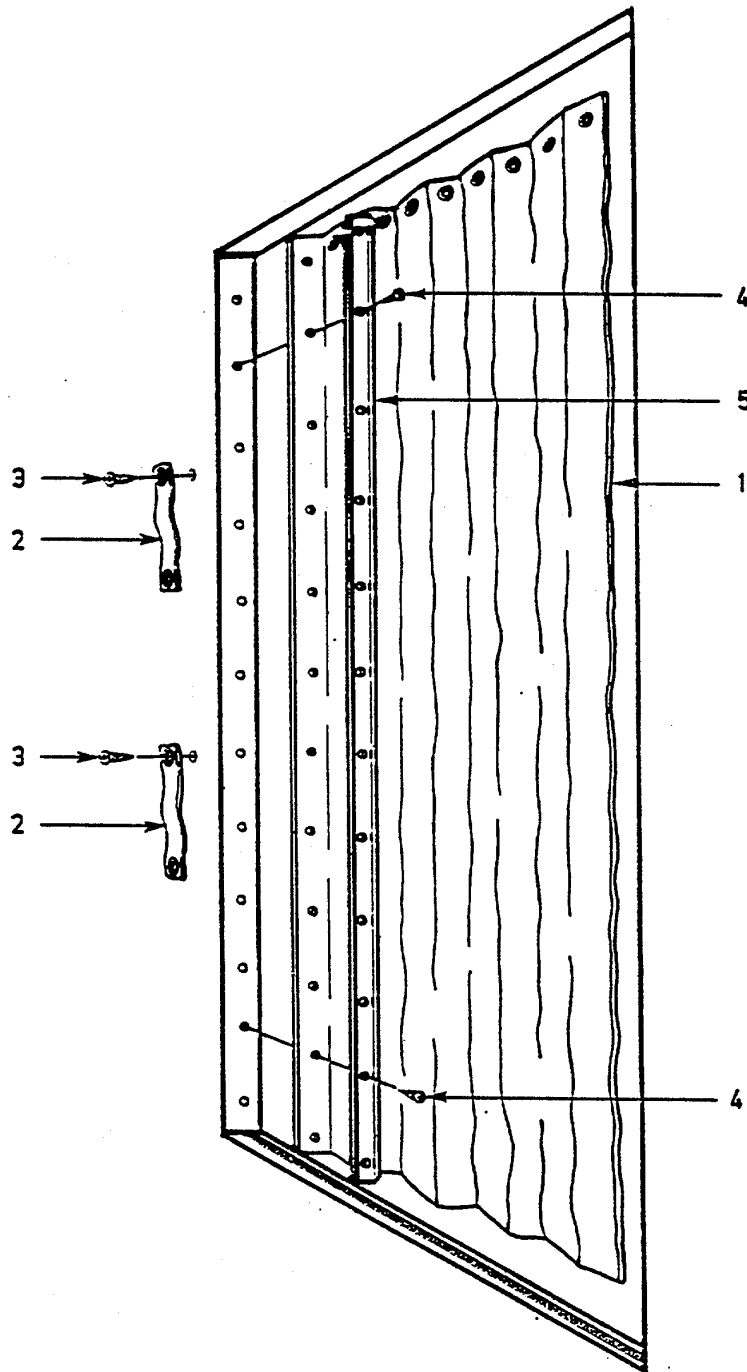

Figure 4-61. Wall Partition Assembly Curtain
4-47. **WALL PARTITION ASSEMBLY.** - Continueda. Inspect. (See Figures 4-61, 4-62, and 4-63.)
(2) Check holdback straps (2, Figure 4-61) for damage.
(1) Disconnect holdback strap (2, Figure 4-61) from curtain (1).
(2) Remove screws (3) and holdback strap (2).
(3) Remove screws (4), metal strip (5), and curtain (1).
- (21) Install valance (2), valance retaining strap (3), and rivets (1) in darkroom doorway.
- (22) Install curtain (1, Figure 4-61), metal strip (5), and screws (4).
- (23) Install holdback strap (2) and screws (3).
- (24) Connect holdback strap (2) and curtain (1).